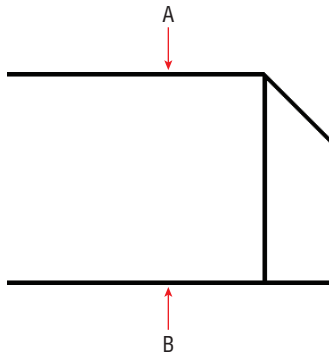

FIGURE 3.14 Overriding running snaps with Nearest snap
9. Zoom into point A or B in Figure 3.14, and verify that the lines are connected perfectly. Click Zoom Previous in the Navigation bar to return to the initial overall view.
10. Type **L**, and press Enter. Hold Shift down, right-click to open the Object Snap context menu, and choose Nearest. Object snaps invoked from the context menu override any running object snaps. Click point A, shown in Figure 3.14. Nearest ensures that the new line is attached somewhere along the edge of the horizontal line.
11. Move the cursor close to point B, as shown in Figure 3.14, and click when the perpendicular marker appears. Press Esc to end the **LINE** command.